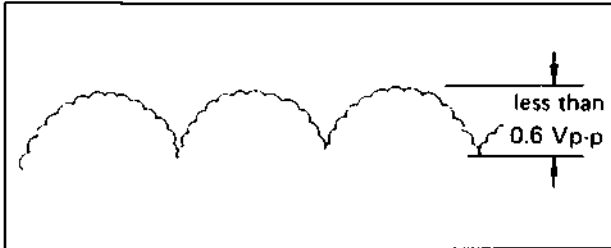

Fig. 5-8 AC ripple
2. Confirm a DC level of approx. 5 V and AC ripple of less than 0.6 Vp-p. See Fig. 5-8.